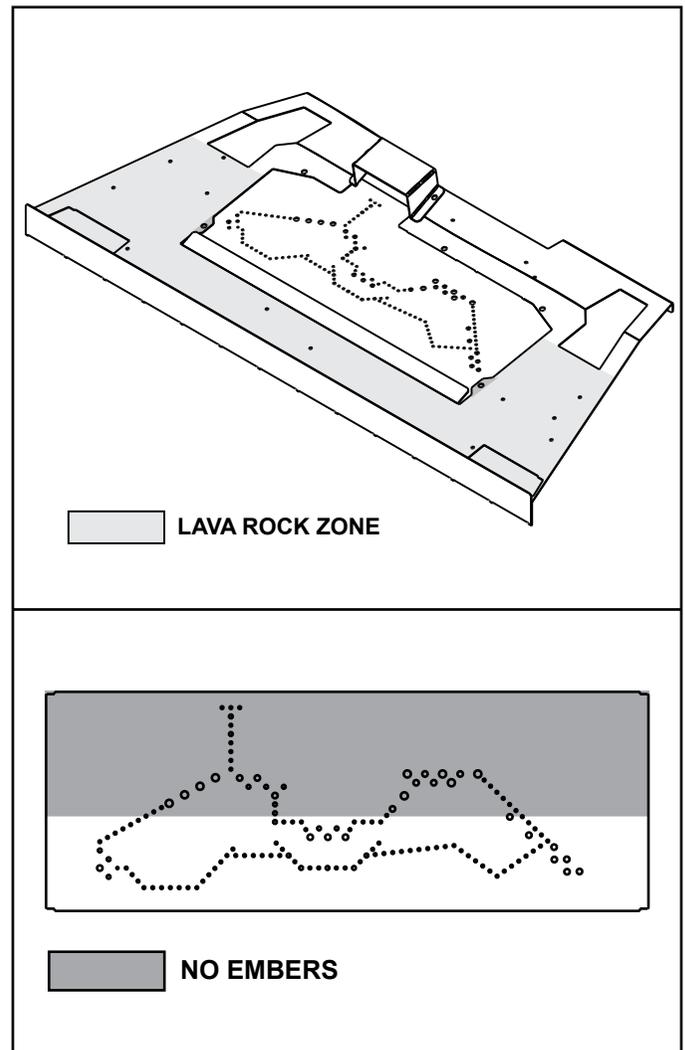

Figure 9.3 Placement of Lava Rock and Embers
- Place lava rock in front of and to the sides of the burner. See Figure 9.3.
- Embers **CANNOT** be placed directly over burner ports that are indicated in Figure 9.3 or in pilot area as indicated in Figure 9.3.
- Embers may be placed on the ports in areas indicated in Figure 9.3. These embers must be placed loosely over the port holes, not pressed down on or into the holes. Create a single layer, no more than 1/4 inch thick.